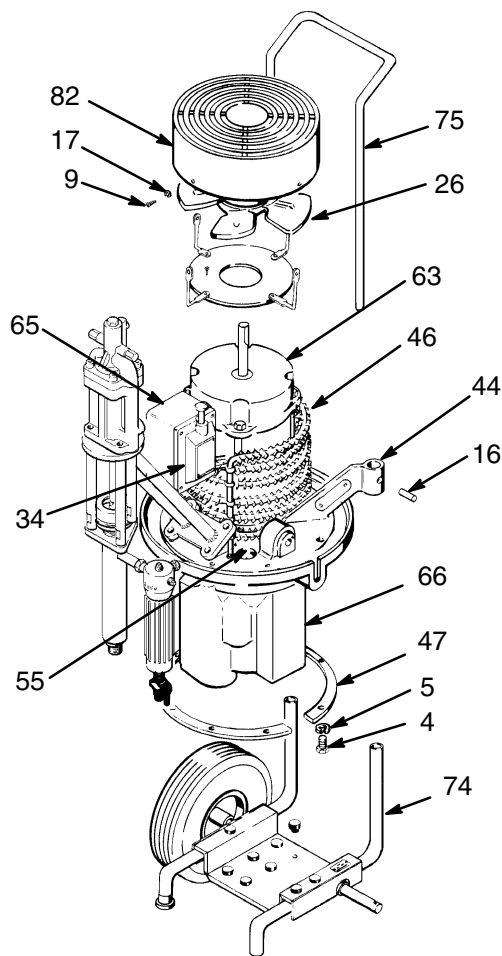
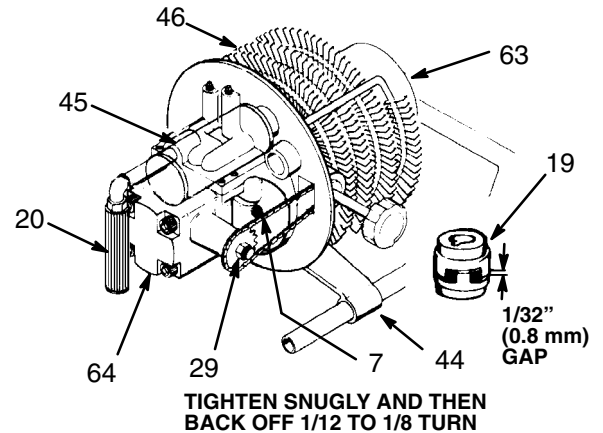

Fig 12
Fig 14
NOTE: Refer to Fig 12 for this procedure.
1. Unplug the sprayer. Relieve pressure. Remove the shield (119). Disassemble the sprayer as in **ELECTRIC MOTOR REPLACEMENT**, page 18.
2. Loosen the setscrew in the coupling half (19). Push the coupling against the hydraulic pump (64). See Fig 12. Remove the four screws (1), the washers (5) (see page 20) and the hydraulic pump. Discard the o-ring seals. See Fig 14, 15 and page 20.
3. Remove the adjusting sprocket retaining nut (29) and pull the sprocket off the adjusting nut. See Fig 14.
4. Apply light grease to the o-rings. Place the o-rings on the pump mounting. Put the coupling half on the shaft of the new pump and leave it loose. See Fig 14.
5. Carefully put the pump in place on the mounting so you don't disturb the o-ring seals. Install the mounting screws tightly. Push the coupling half into the other coupling half until there is a 0.31 in. (0.8 mm) clearance between them, and then tighten the coupling setscrew firmly. See Fig 14.
6. Put the adjusting chain onto the sprocket, then onto the adjusting nut, and then screw the retaining nut (29) onto the stud and tighten until snug. Finally, back off the nut 1/12 to 1/8 turn. See Fig 14.